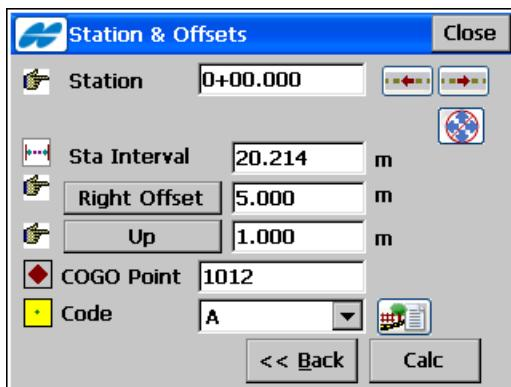

Figure 11-57. Station & Offsets
- **Next** – opens the **Station & Offsets** screen (Figure 11-57 on page 11-46).